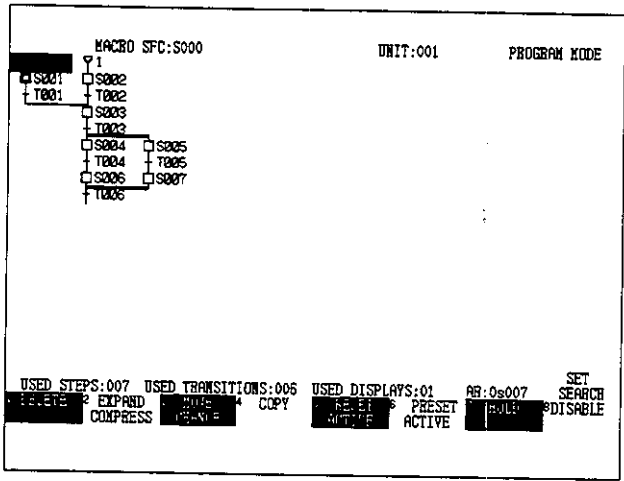

Figure 7.79
- 1) Display the SFC Screen shown in Figure 7.79.
- 1) Display the SFC Screen shown in *Figure 7.79*.
- (1) Be sure the Memory Protect Switch of the GL60S, GL60H, or GL70H is turned OFF.
- (2) Make sure there are no elements in the eighth column.
- (3) Make sure there are no divergences, convergences or loops in the seventh column.
- (4) This operation cannot be performed if there is an active step in the column with the cursor or a column to the right of the cursor.
- (5) To return to the labels shown in *Figure 7.79*, either press the Shift + Edit/Change Node Keys, or select Previous Menu.
- 1) Display the SFC Screen from in *Figure 7.79*. (See Note (2))
- (2) Perform this step if the labels shown in *Figure 7.79* are being displayed.
- (3) Make sure there is no element at the cursor location.
- (4) This operation cannot be performed if there is an active step in a column to the right of the one in which the cursor is located.
- (2) Make sure that an 8-step row and an 8-transition row is vacant and that there is no TO or macro-return.
- (3) This operation cannot be performed if there is an active step in a row below the cursor.
- (4) To return to the labels shown in *Figure 7.79*, either press the Shift + Edit/Change Node Keys, or select Previous Menu.
- (5) This operation cannot be performed if the cursor is in a FROM or TO row.
- 1) Display the SFC Screen shown in *Figure 7.79*. (See Note (2))
- (2) Do this if the labels shown in *Figure 7.79* are displayed.
- (3) Make sure there are no elements at the cursor location.
- (4) This operation cannot be performed if there is an active step below the location of the cursor.